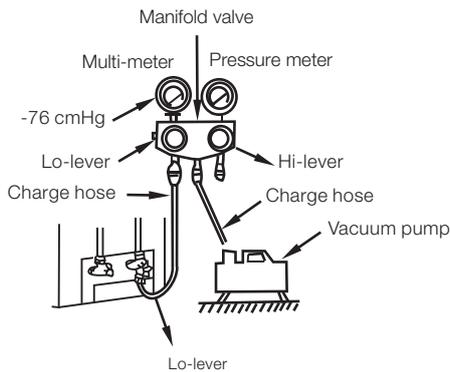

Fig.7-4
**• Expel the air with a vacuum pump (Refer to Fig.7-4) (Please refer to its manual for the way of using manifold valve)**